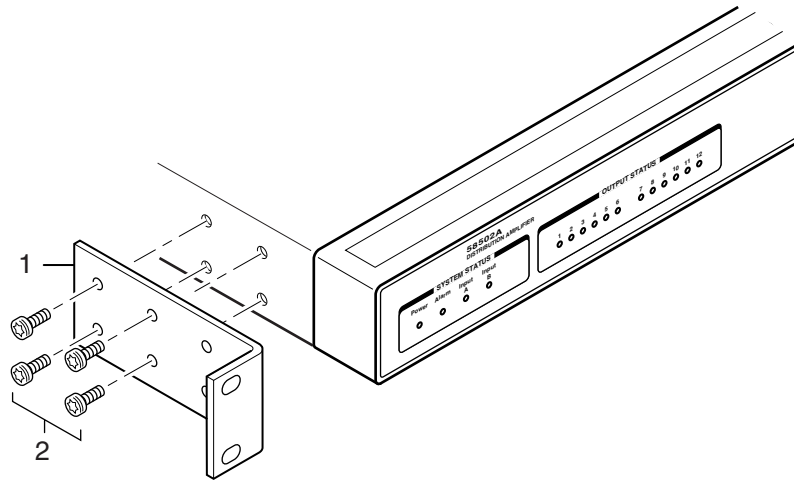

Figure 1-1. Attaching Mounting Brackets for Equipment Rack
- 2 As shown in Figure 1-1, place the long side of an angle bracket (1), part number 58502-00004, with its four mounting holes aligned with the four holes present on the 58502A front side. Note that you may select the four bracket holes appropriate for either a flush or protruding installation.